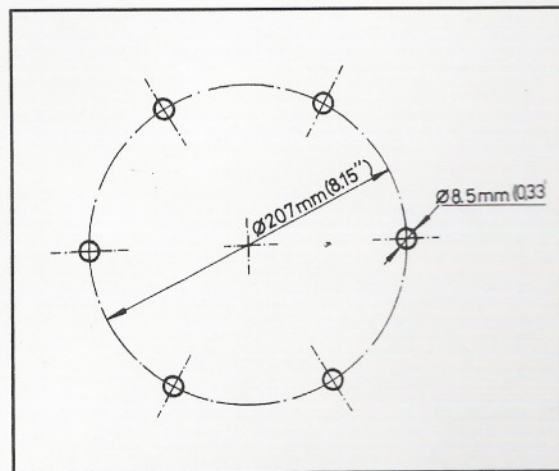

Figure 13: Robot Base Plate Layout
2. Fasten the base of the robot arm to the work surface with at least 3 bolts 120° apart, as shown in Figure 13.